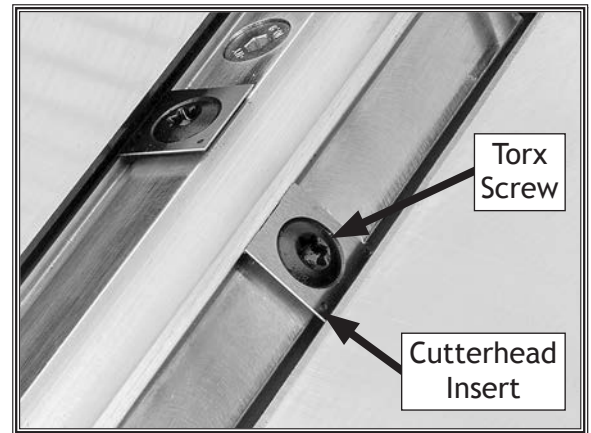

Figure 30. Cutterhead insert and Torx screw.
6. Remove Torx screw and insert (see **Figure 30**), then carefully clean away all dust and debris from insert and insert surface on cutterhead.